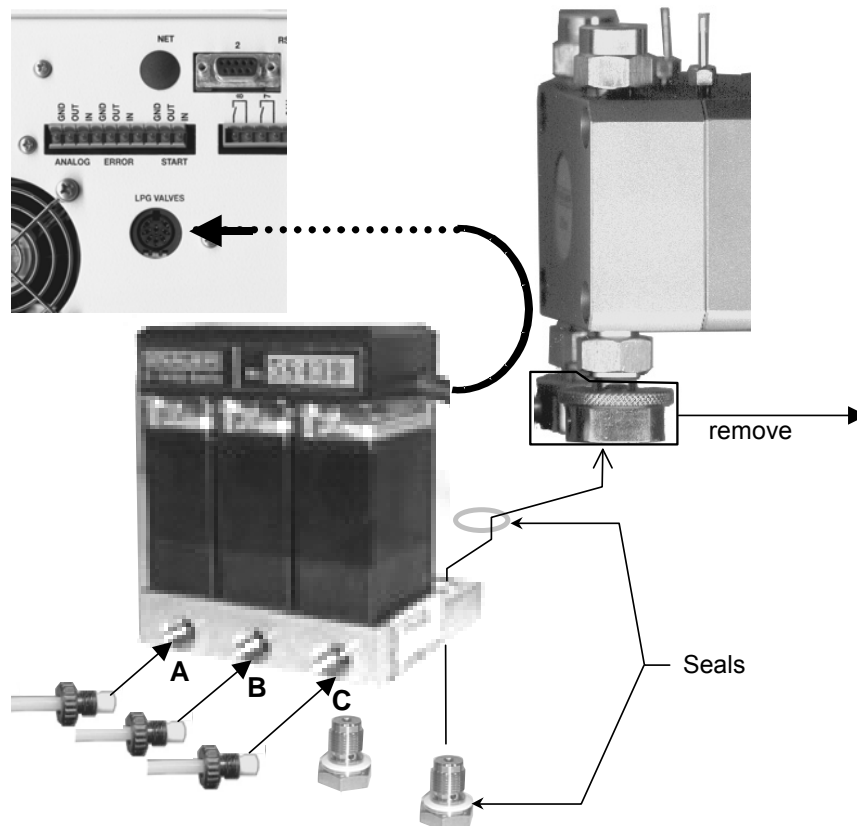

Fig. 17 Installing the ternary LPG valve block
3. Install the valve block as illustrated in Fig. 17 on the pump head.